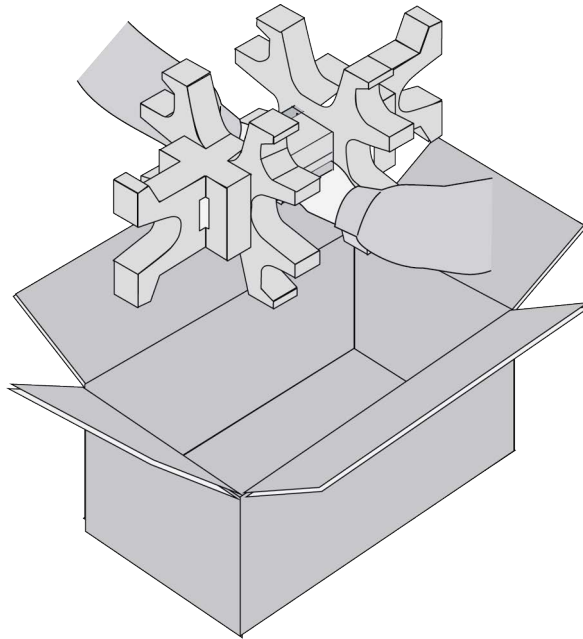

Figure 57. Removing the Power Supply from the Shipping Box
3. Lift the power supply from the shipping box and place it on a level, secure table. Refer to Figure 57 on page 121.